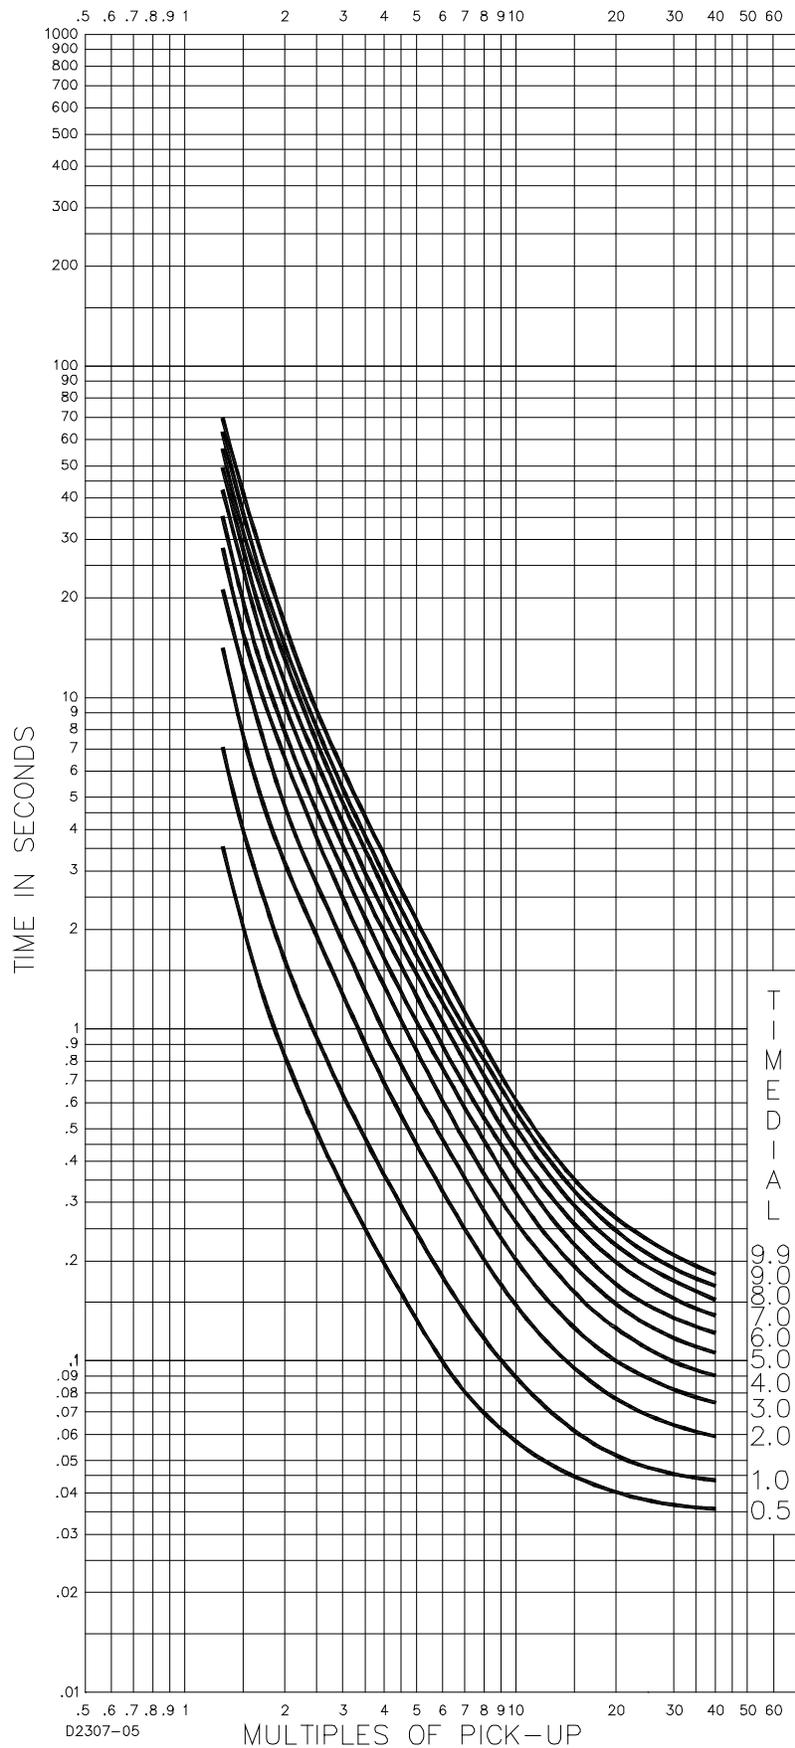

Figure 7-14. E2 Extremely Inverse Curve (SW3-3 On, Similar to GE IAC 77)
- E2-Extremely Inverse (SW3-3 ON, Similar to GE IAC 77): Figure 7-14